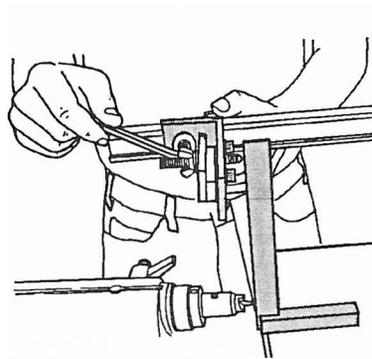

Fig. B-11
9. Use a 1/4" Allen wrench to loosen the two template clamp screws (8). Place a precision square so its front edge just touches the tip of the lathe center. Move the bracket until the template center just touches the front edge of the square. Tighten the bracket's cap screw (11), as shown in Fig. B-11.